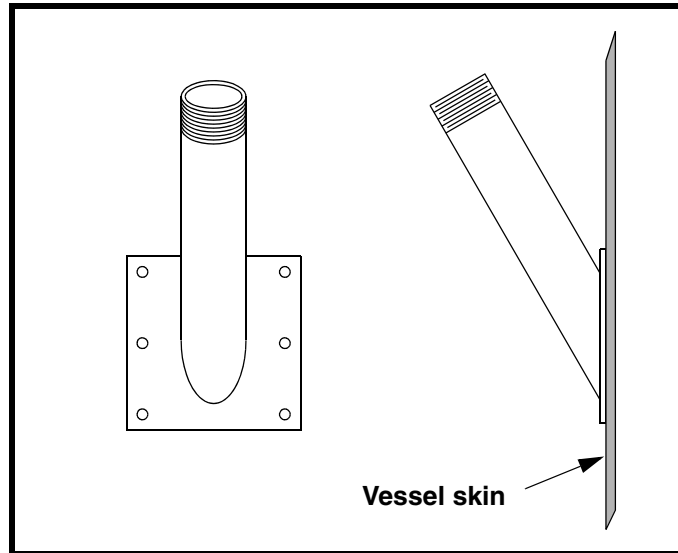

Figure 6. 30° Mounting Plate
- b. If using a 30° mounting plate (Figure 6), cut a hole in storage vessel for each mounting plate using templates on last page of this manual. If templates are missing, contact Martin Engineering or representative. Place mounting plate over hole and field weld to vessel skin.